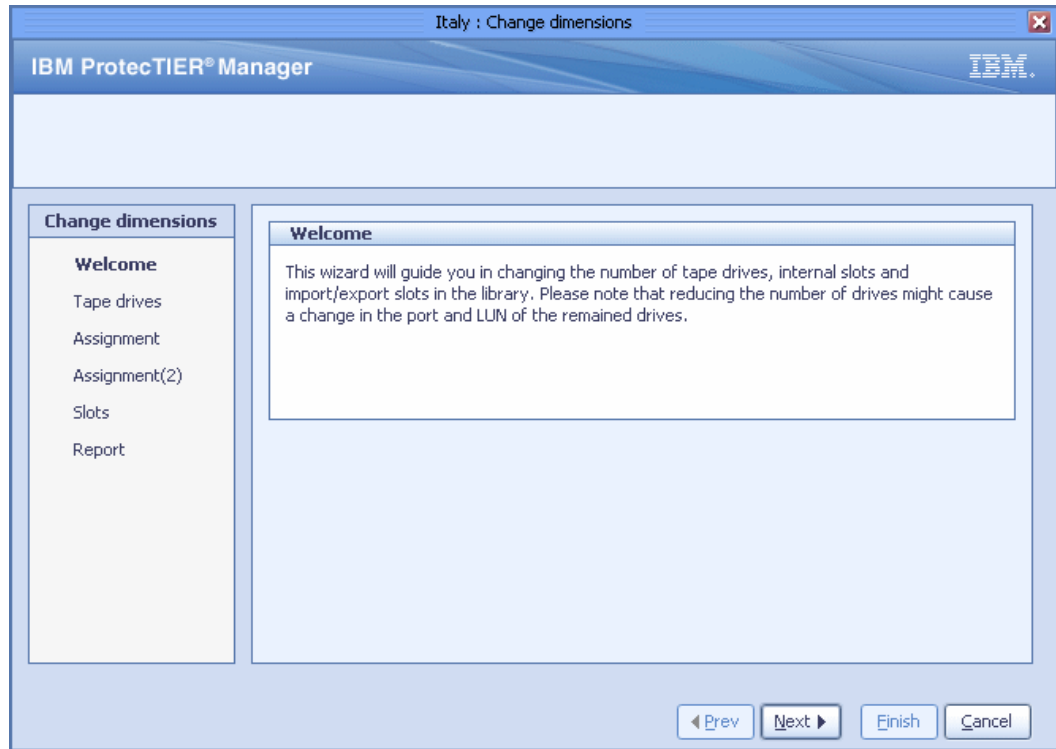

Figure 10-16 Change library dimension window
- From the menu bar, select **VT** → **VT Library** → **Change dimensions**. The Change dimensions wizard welcome window opens (Figure 10-16).